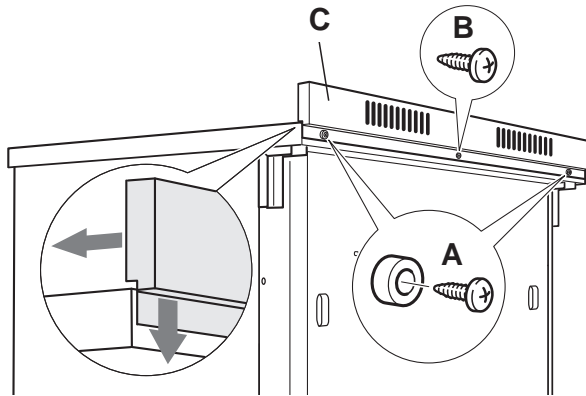

Fig. 1.2
Before installing the cooker, assemble the backguard "C" (fig. 1.2).
- Assemble the backguard as shown in figure 1.2 and fix it by screwing the central screw "B" and the spacers "A".